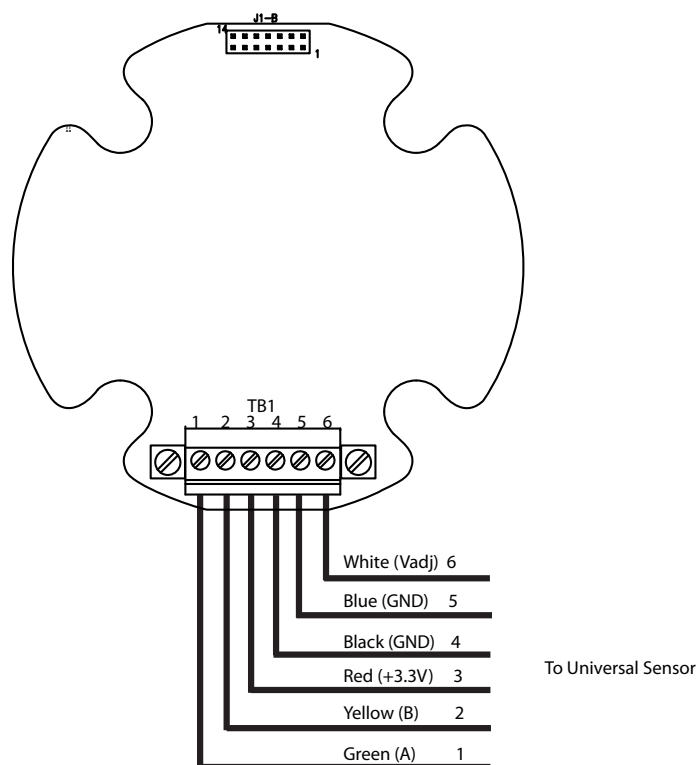

Figure 4-23: Meridian Detector Body Assembly Connection
2. Loosen and remove the four (4) standoffs.
4. Remove the two (2) Phillip head screws to the terminal block cover to access the 6-pin plug connector (TB1).
6. Insert the 6-wires into the 6-pin plug connector (TB1) 1, 2, 3, 4, 5 and 6 respectively, Green (A), yellow (B), red (3.3V), black (GND), blue (GND), and white (Vadj) (refer to Figure 4-23: Meridian Detector Body Assembly Connection).